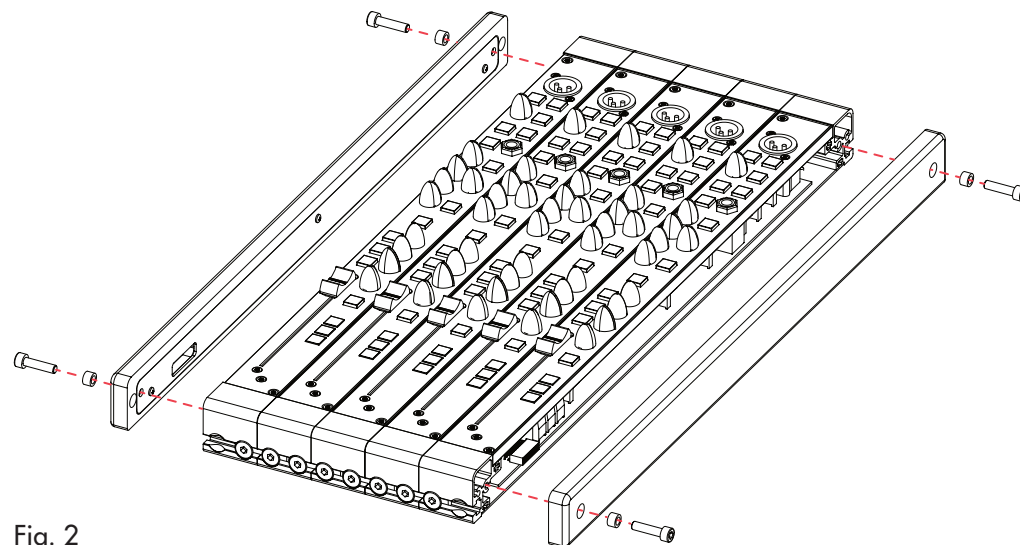

Fig. 2
- Tighten all the screws (3) on each connecting rod so that both units are firmly joined together.
- Now fit the side panels (see Fig.2). Fix these panels using the supplied screws. (The self-cutting screws need some force in order to be turned. Make sure you have inserted the screws straight into the hole during the first few turns.) Different side panels are available - see www.schertler.com for more details.